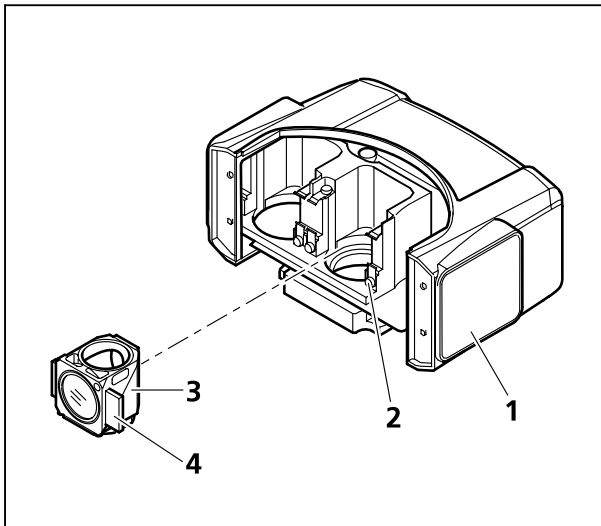

Fig. 3-7 Changing the reflector module in the reflector insert
- Remove the reflector insert (Fig. 3-7/1) from the upper stand part (chapter 3.1.7) and put it aside with the upper side facing down.
- Insert the module (Fig. 3-7/3) (with the upper side facing down) with the aid of its mounting elements on its left and right (Fig. 3-7/4) at a slant from the top into the lower spring clips (Fig. 3-7/2) on the reflector socket.